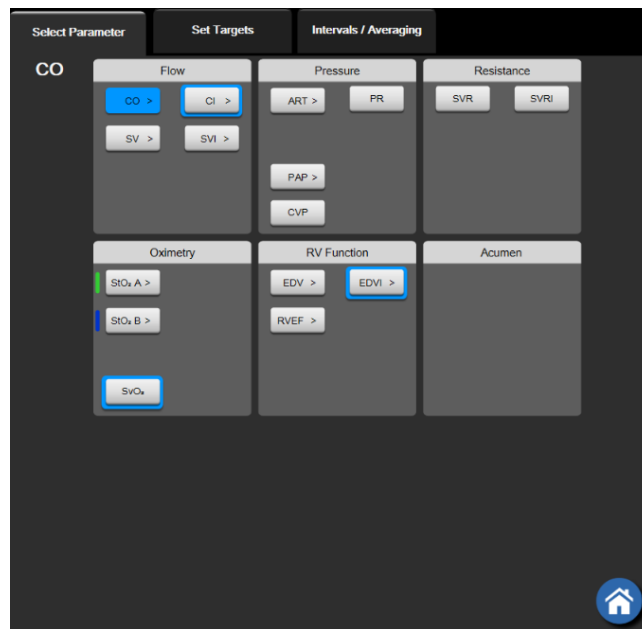

Figure 5-4: Example of key parameter selection tile configuration menu
2. The tile configuration menu will show the selected parameter highlighted in color and other parameters currently being displayed outlined in color. Available parameters appear on the screen without highlights. Figure 5-4 on page 99 shows the parameter selection tab of the tile configuration menu that will appear while selecting continuous parameters and monitoring with the HemoSphere Swan-Ganz module. The appearance of this window while monitoring with other HemoSphere modules or cables varies from what is shown in Figure 5-4 on page 99.
Parameters are organized into categories. The categories available are based on the current monitoring mode. Categories, listed below, are grouped together on the parameter selection configuration menu. See Figure 5-4 on page 99.